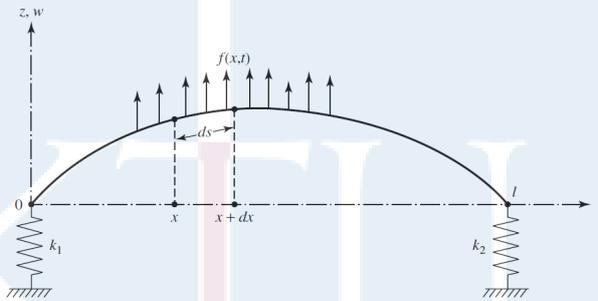

Fig.4 (14)
19. Fig. 4 shows a tightly stretched elastic string or cable of length l subjected to a distributed transverse force $f(x, t)$ per unit length. Obtain one dimensional wave equation